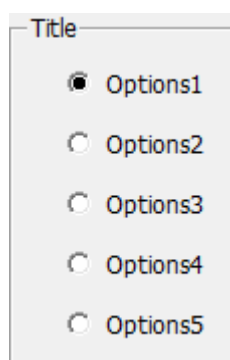

Figure 3-51 Radio Box Title setting
- Special settings in the Radio Box Property Bar: Similar to the settings of Check Box Property Bar. According to the characteristic of the Check Box, user can set the location of initial option in the Property Bar. Input the option address value (as default as 0) in “Current selected item”. For example, when input 3, then the initial option is the fourth item, as shown in Figure 3-51.